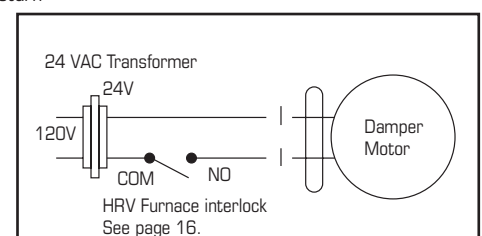

Figure 1
**If the HRV is installed such that the homeowner may turn off the HRV during the winter, we recommend installing a motorized damper between the HRV's supply air and the furnace's return air duct that closes when the HRV is not operating. See wiring diagram (figure 1). You may also choose to use a Fantech HRV that uses a recirculation defrost that incorporates an outdoor air damper.**